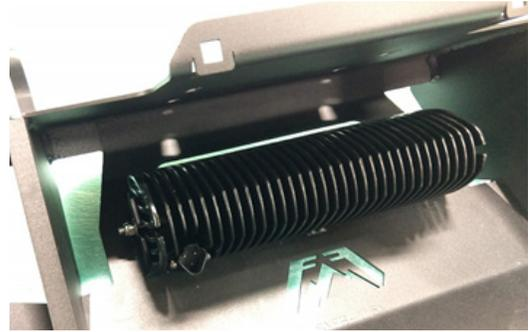

Figure 4
5. If installing a lightbar do so now using the light manufactures provided hardware. (Figure 4)